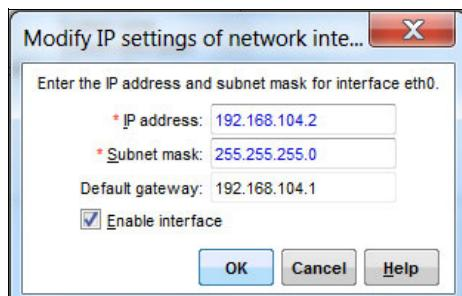

Figure 14-5 Window to assign the IP address of the network interface
- In the dialog box that is shown in Figure 14-5, enter the parameters for one iSCSI target port. Specify the IP address, the Subnet mask, and the Default gateway. Select the **Enable interface** check box.